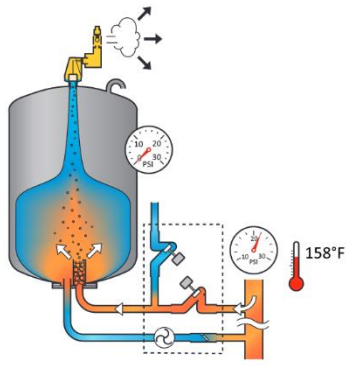

Figure 2
**Atmospheric Deaerator** - Atmospheric deaeration, an “active” deaeration strategy, is an extended functionality of pump controlled “expansion automats” (commonly used in Europe). Atmospheric deaeration is a process in which the pressurized system fluid is cyclically fed into an atmospherically pressured tank (see figure 2). When the system fluid enters the tank, its pressure drops to 0 PSI. Due to this reduction in pressure, dissolved gases are released (Henry's Law). By locating an automatic air vent at the top of the tank, these gases can be vented to atmosphere. Once the fluid has been deaerated it is returned to the system via a pump (see figure 3). This process can be set to run continuously or intermittently as required to meet system demands.